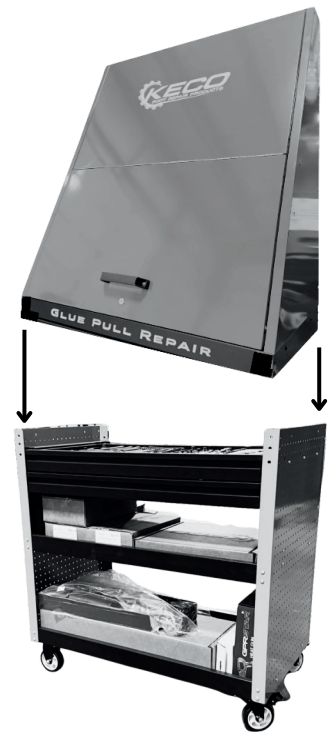

Figure 1.
1) Once the pallet is unwrapped, remove all cartons from the top of the (2) large cartons (boxes 1 and 2) and set to the side as we'll address these later. Find the carton marked with 'START HERE' or 'OPEN THIS BOX FIRST'. This package contains the Lower Section of the System with instructions. (see images to right)
4) Using (2) people, lift the lower cart assembly off the pallet and on to a solid surface. Lifting from under the middle shelf or the bottom of the cart is preferred. Lifting from under the drawers of the cart could cause damage to the drawer mechanism(s). Once in the preferred location, lock both swivel casters.
6) Again, using (2) people, lift the upper cart assembly and carefully place it on top of the lower cart. (See figure 1.) Position hands under the assembly at least 4" (10cm) in from each side to avoid interference.